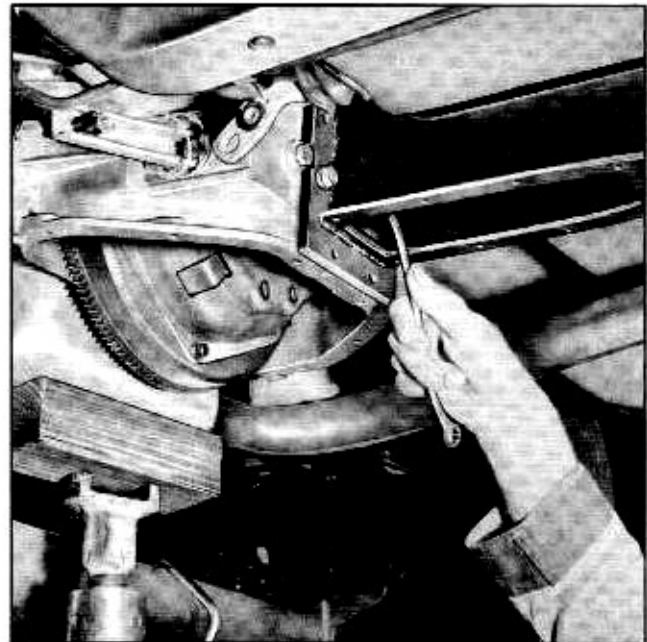

Fig. 4-12 Removing Bolts From Propeller Shaft Flange
9. Remove six bolts from propeller shaft flange (Fig. 4-12).